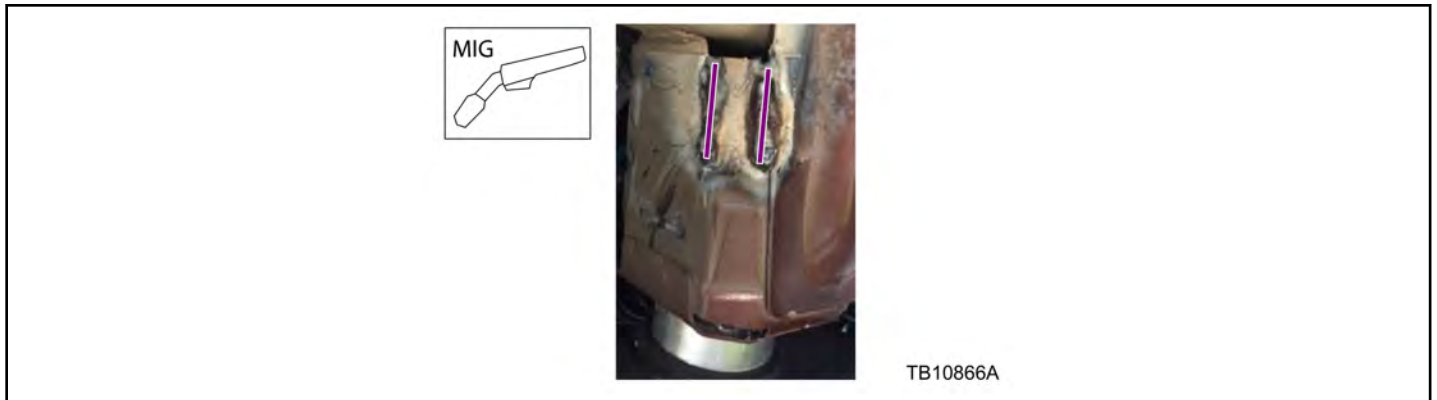

Figure 5 - Article 16-0021
11. Using a MIG welder, weld the previously cut sheet metal to repair the bracket. (Figure 5)
5. Disconnect the two (2) electrical connectors.
6. Remove the foam seal tape if present and clean the location shown with isopropyl alcohol. (Figure 5)